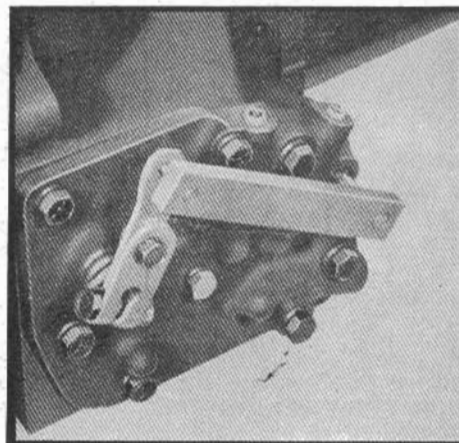

Fig. 17 Throttle valve outer lever positioning gauge. 1954 Powerglide
5. Measure the distance between the hole in the side cover and the hole in the throttle lever "D" with Positioning Gauge J-5588, Fig. 17. If the gauge pins will enter holes, adjustment of lever "D" is correct. If not, loosen clamp bolt and adjust accordingly. *When making adjustment, clamp "C" must be rotated counterclockwise to the full detent position.*